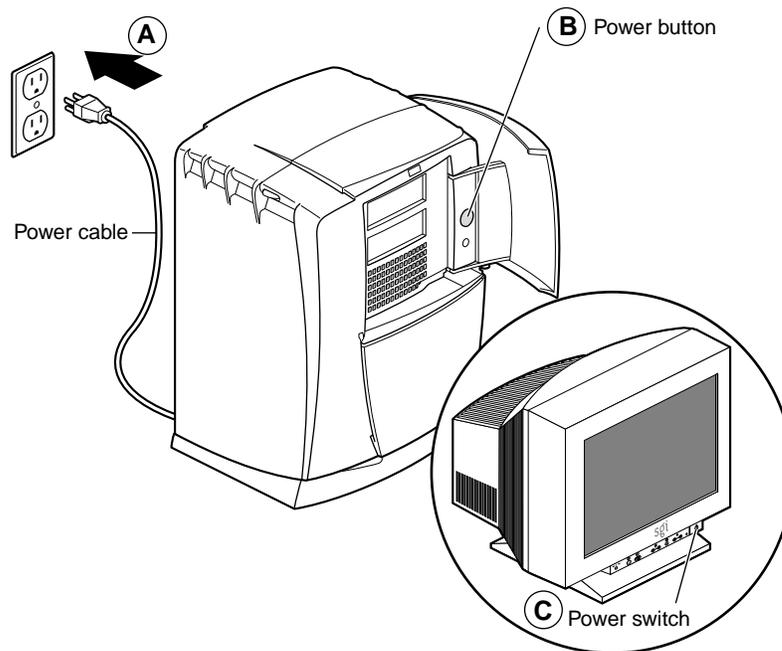

Figure 5-21 Powering On the Octane2 Workstation
1. Plug the power cable into an electrical outlet (see A in Figure 5-21).
2. Press the power button (B) on the front of your workstation.
3. Press the monitor power switch (C) to turn on your monitor.